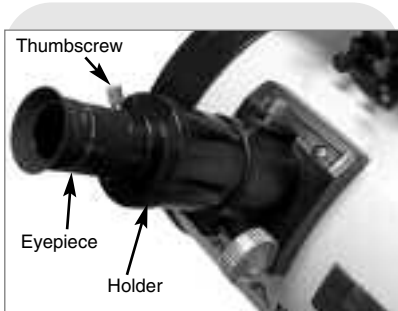

Fig. 10a: Insert eyepiece into holder and tighten thumbscrews.
- Insert the eyepiece: Schmidt-Newtonian and Newtonian models (Fig. 10a):** Lift to remove the dust cap from the eyepiece holder on the focuser assembly. Set the dust cap aside in a safe place and replace it when you have finished observing to protect the eyepiece assembly. Back off the eyepiece thumbscrews (1, Fig. 1a) and insert the supplied SP 26mm eyepiece (3, Fig. 1a) into the eyepiece holder. Tighten the holder thumbscrews to a firm feel to secure the eyepiece.